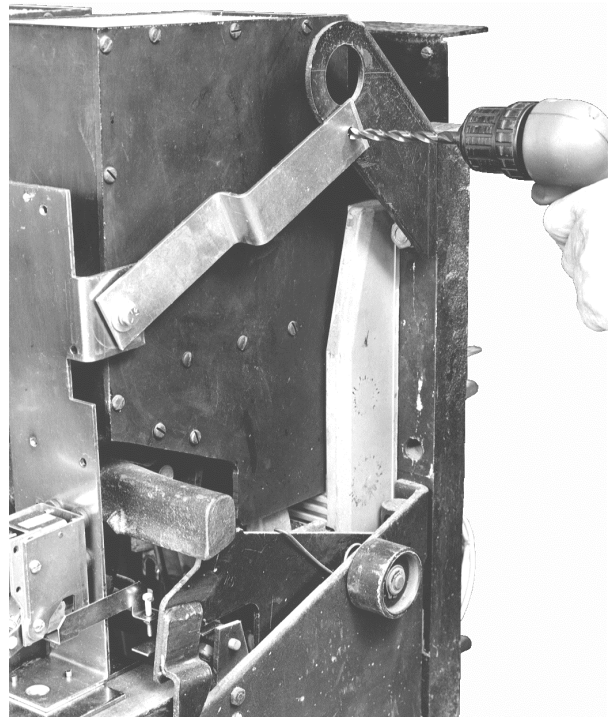

Figure 7. Installing the support bracket..
2. Install the support bracket provided to strengthen the top of the trip unit bracket, as shown in Figure 7. Attach the support bracket to the trip unit mounting bracket with the 1/4-20 x 3/4" bolt provided. Use the bracket as a template to locate the position in the breaker frame to drill a hole to accommodate a 1/4" bolt.